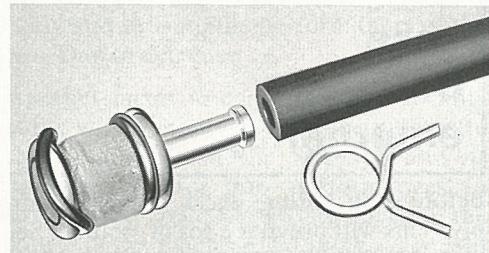

Figure 30
To clean the filter, remove the (2) "O" rings holding the screen around the syphon pick-up foot. (See fig. 30).